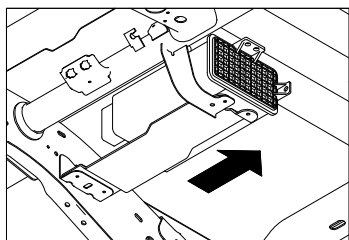
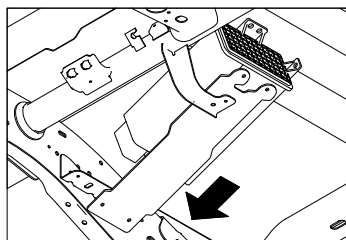

Figure A1: Looking up under the bed.
Figure A2.
- 4. Detach fuel valve canister if needed.** Locate the rectangle shaped fuel valve canister. If it is mounted behind the tube frame cross member it will not interfere with the installation. If it is mounted in front of the tube frame cross member it will need to be lowered during the installation. First remove the 3 small bolts that hold the canister bracket to the truck using a 10mm wrench. Then slide the canister toward the center of the truck far enough to allow the end toward the frame to be pulled downward, see Figure A1. Then slide the canister back toward the frame to allow the complete canister to drop down about 4 to 5 inches providing space for installation, see Figure A2. The canister will be re-attached in a later step.